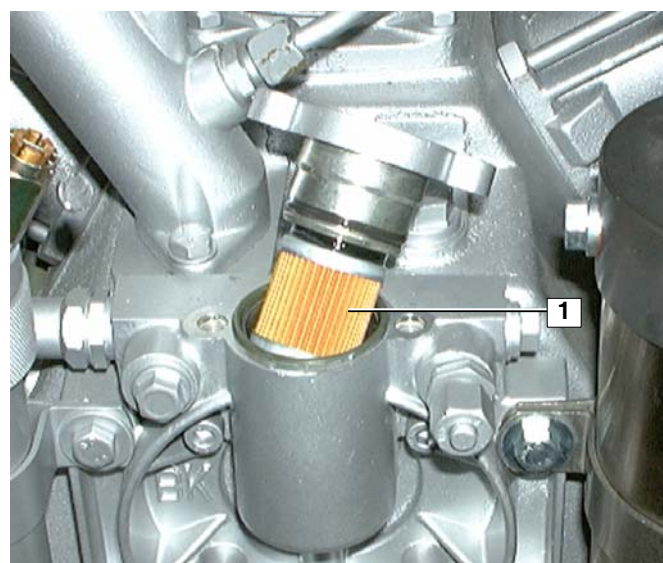

Fig. 31 Replacing the oil filter
- Remove oil filter (1, Fig. 31) from rubber gasket at cover.